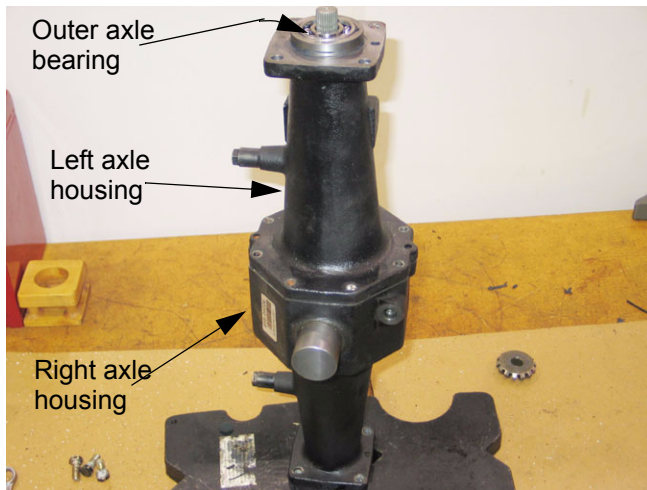

Figure 9.76
- 9.76. Install the bearing that supports the outboard end of the axle shaft. See Figure 9.76.